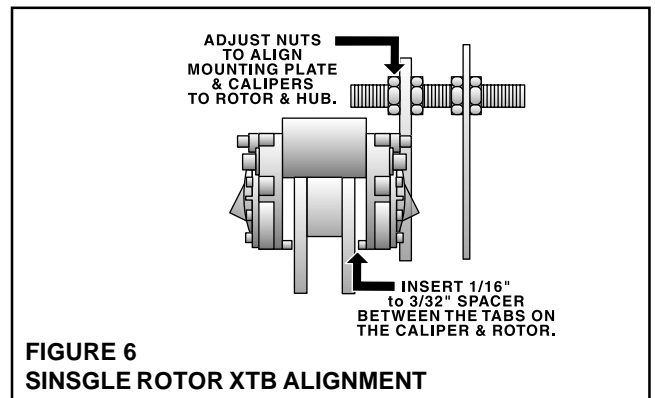
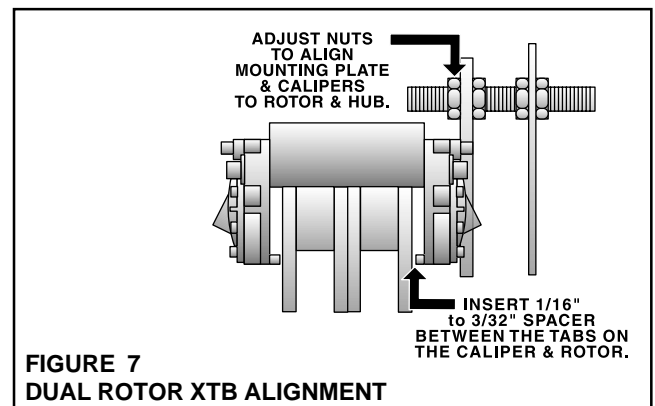

FIGURE 6
FIGURE 7
- Align the Mounting Ring and Calipers to the Rotor(s) and Hub Assembly by adjusting the Nuts until a 1/16-3/32" spacer can be inserted between the tabs on the Caliper and Rotor (See Figure 6 for Single Rotor and Figure 7 for Dual Rotor alignment procedures).